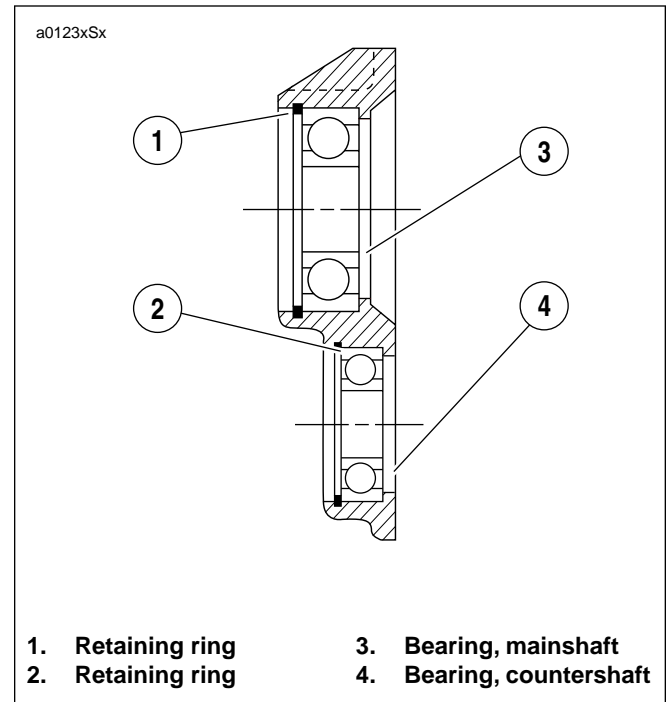

Figure 6-84. Ball Bearing Assembly
5. See Figure 6-84. If bearing replacement is required, remove retaining rings (1, 2) using snap ring pliers (Snap -On Part No. PR-36). Press out bearings (3, 4) from the inside of the crankcase.